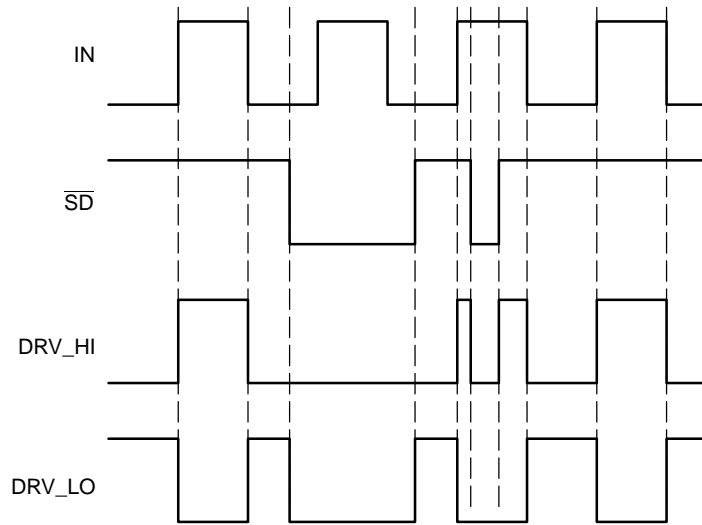
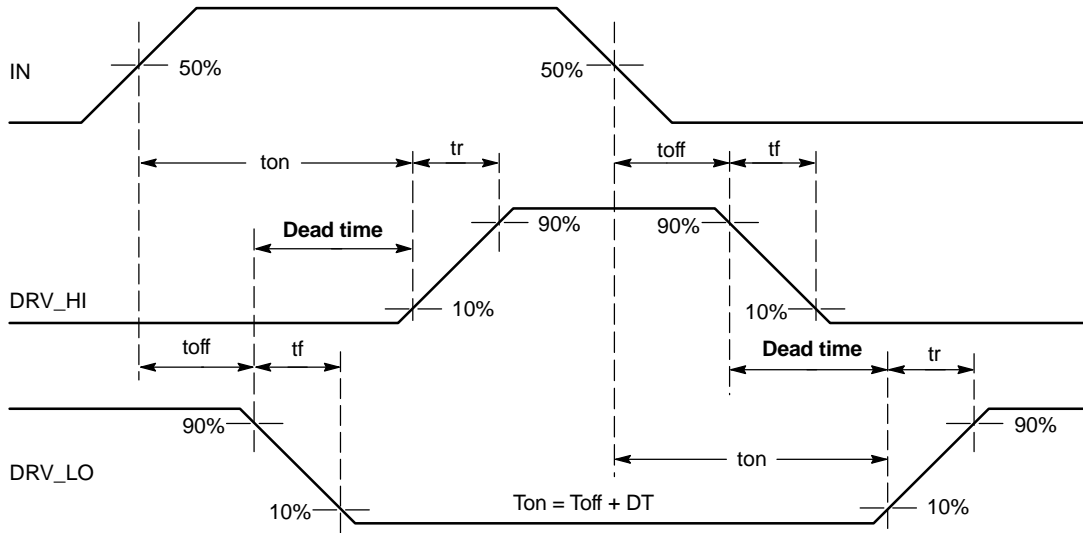
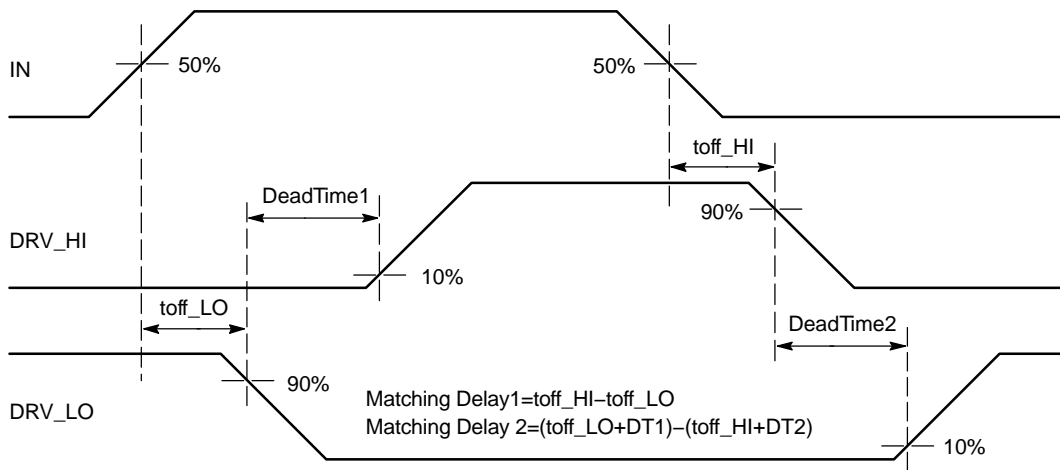

Figure 4. Input/Output Timing Diagram
Figure 5. Timing Definitions
Figure 6. Matching Propagation Delay Definition
- Timing diagram definition see: Figure 4, Figure 5 and Figure 6.